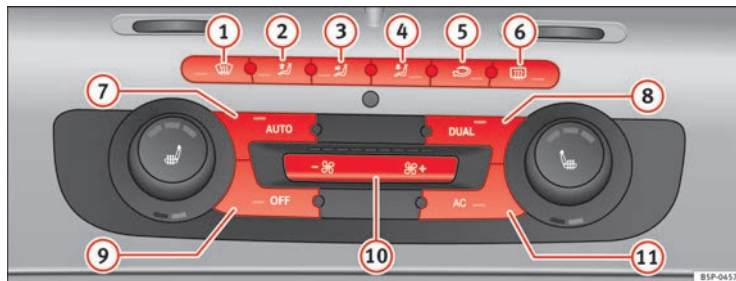

Fig. 133 On the dash panel: 2C Climatronic controls.
- To enter manual mode, press one of the buttons ⇒ fig. 133 ① to ⑤ or press the air flow control ⑩. The selected function is shown on the radio or navigator display.
- Press the button  ⇒ fig. 133  to switch air recirculation mode on or off. It is switched on if the following symbol appears in the display .